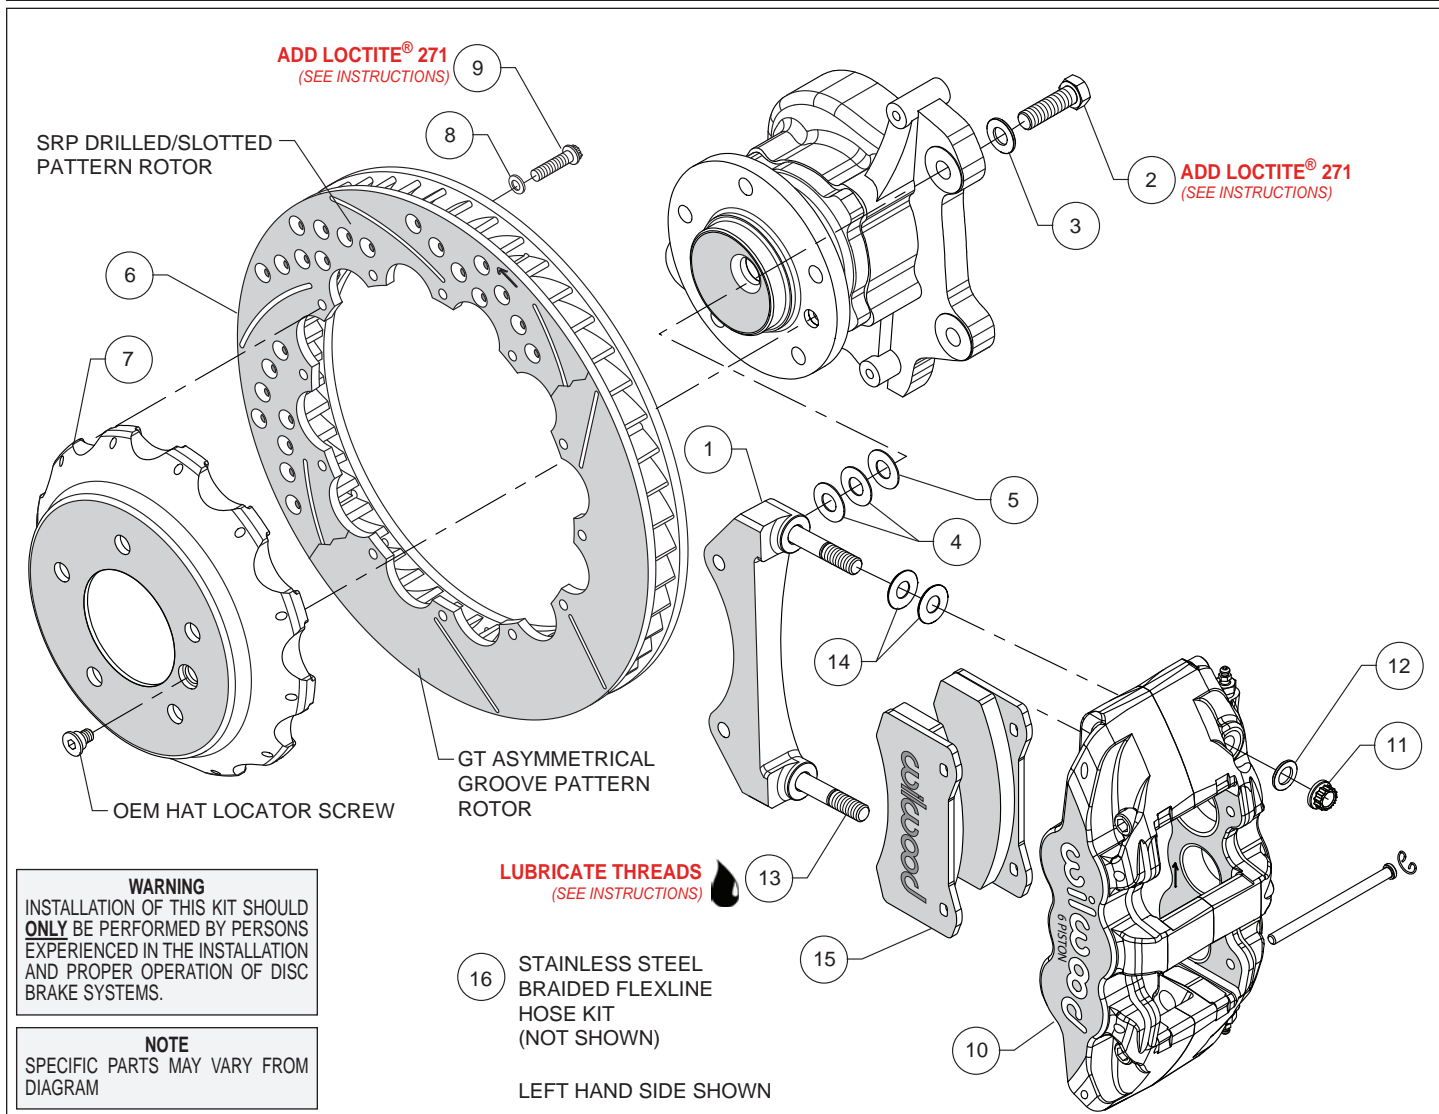
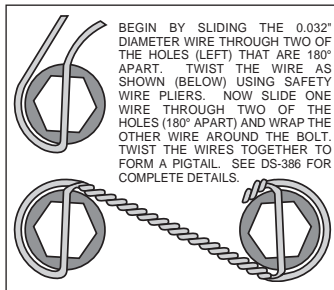

Figure 1. Typical Installation Configuration
Figure 3. Safety Wire Diagram
Assembly Instructions (numbers in parenthesis refer to the parts list and Figure 1 on the preceding pages):
- The caliper mount bracket (1) should initially be installed with clean, dry threads on the mounting bolts. Orient the bracket as shown in Figure 1, and Photo 1. Install bracket using mount bolts (2), and washers (3). Initially place two .033" thick shims (4), on each bolt between the bracket and upright, Figure 1. Temporarily tighten the mounting bolts. **NOTE:** *The bracket must fit squarely against the mount bosses on the upright.* Inspect for interference from casting irregularities, machining ridges, burrs, etc. Later, after the caliper alignment has been checked, the mount bolts will be secured using red *Loctite*® 271.
- Orient the rotor (6) and the hat (7) as shown in Figure 1 and Photo 2. Attach rotor to hat using bolts (9) and washers (8). Using an alternating sequence, apply red *Loctite*® 271 to the threads and torque bolts to 155 in-lb. For an added measure of security, the bolts may be safety wired using standard 0.032 inch diameter stainless steel safety wire as shown in Figure 3. Please refer to Wilwood's data sheet DS-386 (available at www.wilwood.com/Pdf/DataSheets/ds386.pdf) for complete safety wire installation instructions.
- NOTE:** *This kit contains distinct right and left hand calipers that must be mounted in a specific direction, as described below.* Lubricate the caliper mounting studs (13) with lightweight oil. Initially place two .030" thick shims (14) on each stud as shown in Figure 1 and Photo 4. Mount the caliper (10) onto the bracket (1) using lock nuts (11) and washers (12), Figure 1. Ensure that the caliper is mounted so that the largest pistons are at the rotor exit end of the caliper, in relation to the direction of rotor rotation. Temporarily tighten the lock nuts and view the rotor through the top opening of the caliper. The rotor should be centered in the caliper, Photo 5. If not, adjust by adding or subtracting shims (4 and/or 5) between the bracket and the upright. Always use the same amount of shims on each of the two mounting bolts. Once the caliper alignment is correct, remove the bracket mounting bolts one at a time, apply red *Loctite*® 271 to the threads, and torque to 60 ft-lb.
- Remove the two pad retaining pins from the caliper by carefully popping out the pin retaining clips and sliding out the pins. Insert the brake pads (15) into the caliper from the bottom, Figure 1, and Photo 6, with the friction material facing the rotor and secure the brake pads in place with the pad retaining pins and clips, Photo 7. Reinstall the caliper onto the caliper mounting bracket and temporarily tighten the lock nuts. Check that the top of the brake pad is flush with the outside diameter of the rotor, Photo 8. If not, adjust by adding or subtracting shims (14) between the caliper and the bracket. After the caliper pad height is set, torque the caliper lock nuts (11) to 47 ft-lb.